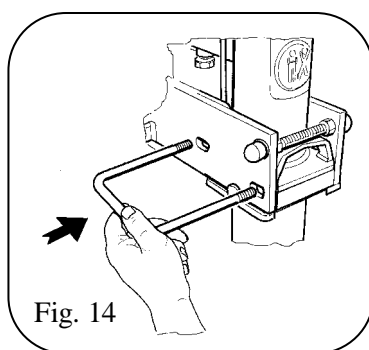

Fig. 14
- Remove the M14 U-bolt (screws). (Fig. 14)